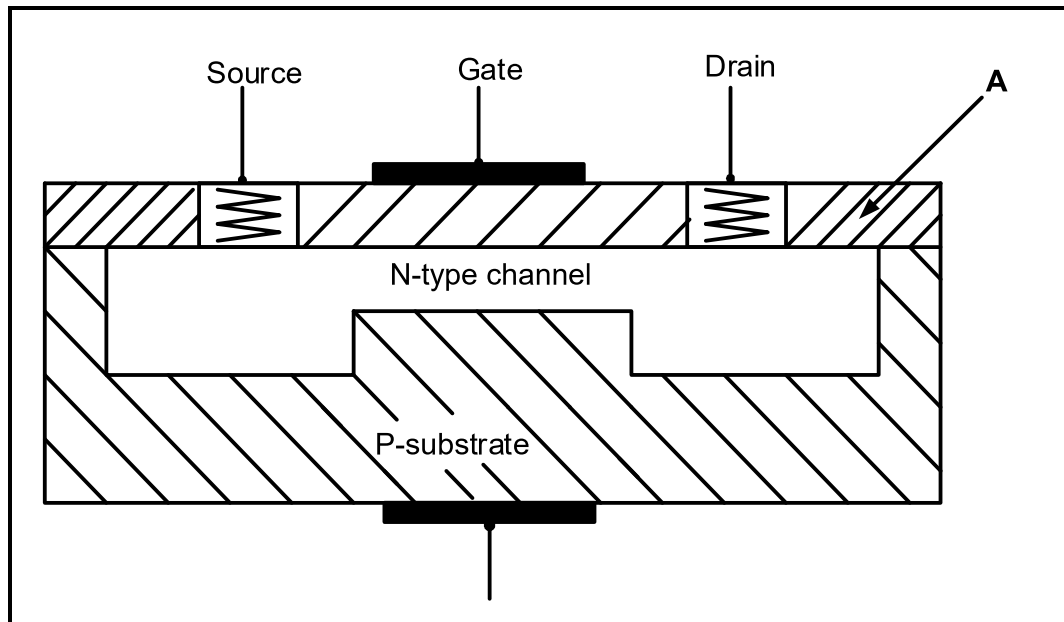

FIGURE 4.3: CONSTRUCTION OF A MOSFET
4.3 Refer to FIGURE 4.3 below and answer the questions that follow.
- 4.3.1 Identify the mode in which the MOSFET in FIGURE 4.3 above is operated. (1)
- 4.3.2 Name **A** in FIGURE 4.3 above. (1)
- 4.3.4 Briefly describe the operating principle of the MOSFET in FIGURE 4.3 above when a negative potential is applied to the gate. (3)